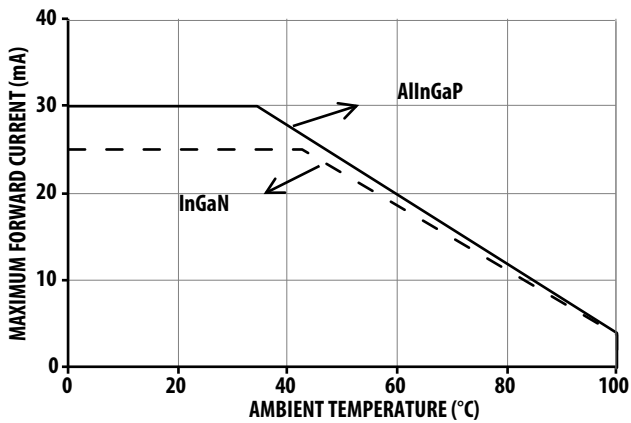
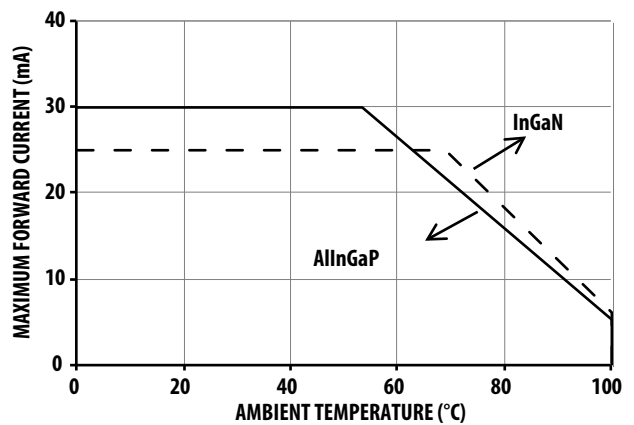

Figure 4a. Maximum forward current vs. ambient temperature (3 chips)
Figure 4b. Maximum forward current vs. ambient temperature (single chip)
1. Derate linearly as shown in Figure 4a and Figure 4b.
3. For more information, see Figure 4a and Figure 4b.